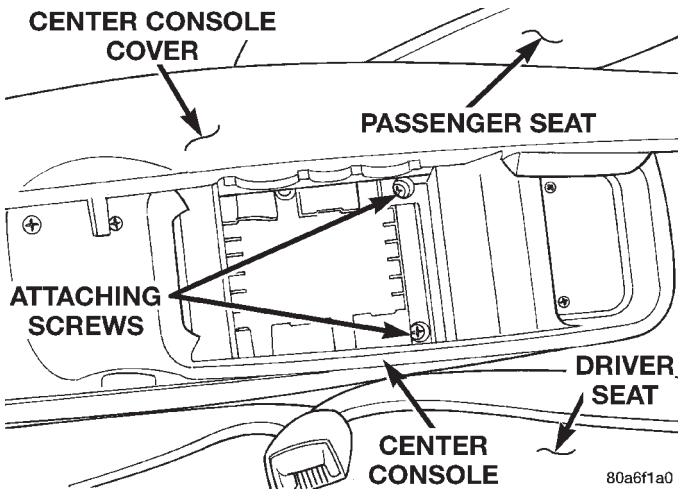

Fig. 193 Center Console Rear Attaching Screws
(1) Remove the 3 screws (Fig. 193) attaching the rear of the center console.